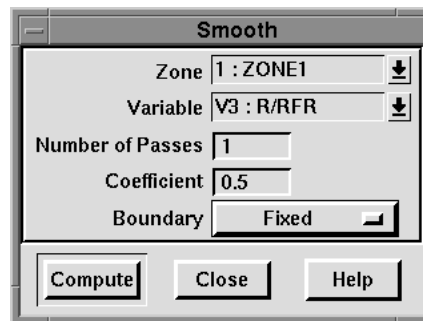

Figure 25-23. The Smooth dialog.
1. From the Data menu, choose Alter, then choose Smooth. The Smooth dialog appears as shown in Figure 25-23.